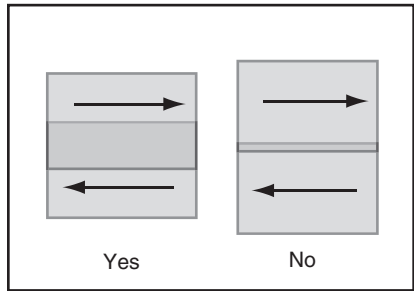

Figure 5. Overlap technique.
12. Overlap each stroke by 50%. This will ensure even coverage as shown in **Figure 5**. Less than 50% as shown in the figure to the right may lead to missed spots or streaky results.